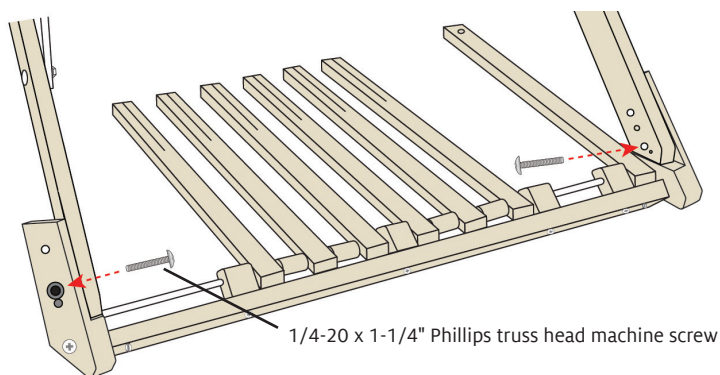

FIGURE 11: ATTACH INSIDE BLOCKS TO INSIDE LEGS, LOWER HOLE
19. From inside the loom, insert a 1/4-20 x 1-1/4" Phillips truss head machine screw through the large hole at the bottom of the inside leg (where the treadle assembly used to attach) and into the second hole from the top of an inside height extender block, as shown in Figure 11. Attach this screw firmly to the height extender block. Repeat on the other side of the loom for the remaining inside height extender block.